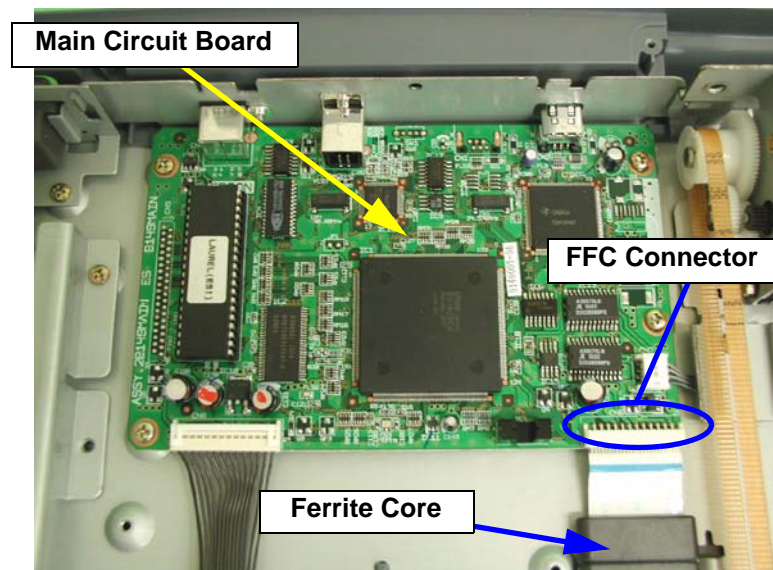

Figure 4-15. Carriage Unit Removal (5)
8. Disconnect the white FFC from the main circuit board. (See Figure 4-15)
9. Disconnect the white FFC from the ferrite core. (See Figure 4-15)